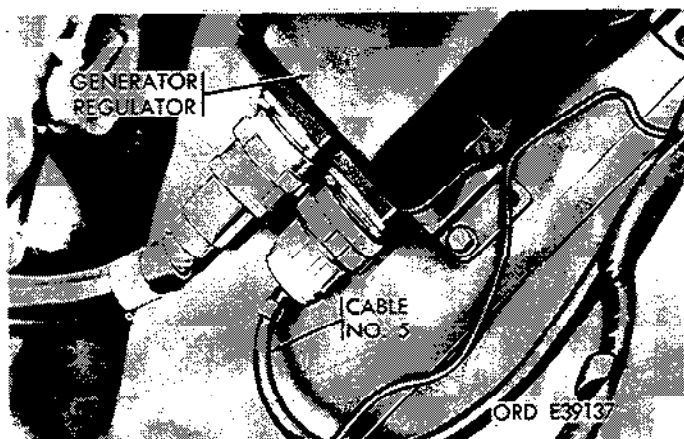

Figure 2-227. Unscrew cable No. 5 at generator regulator.
(6) Use spanner wrench and unscrew cable No. 5 at generator regulator (fig. 2-227).